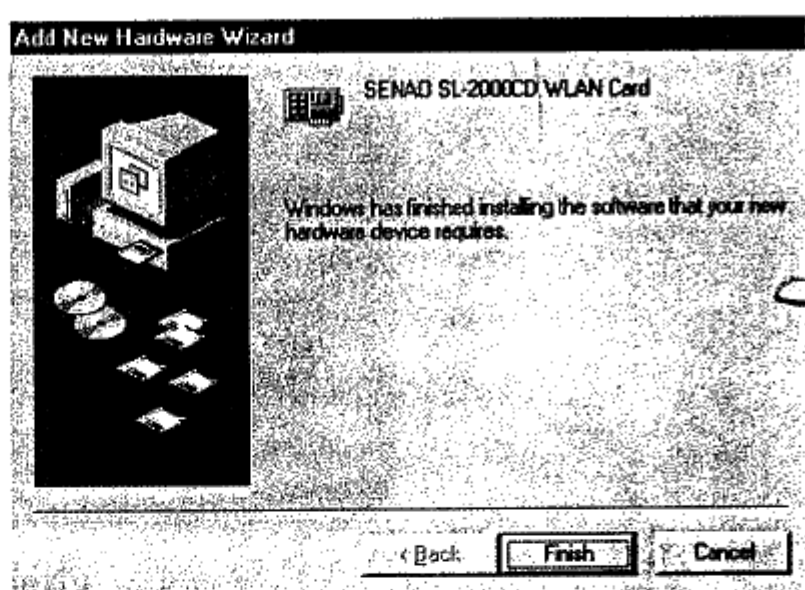

Figure 3-15
9. After finishing loading, the computer will display "Windows has finished installing the software that your new hardware device requires" as shown in Figure 3-15.